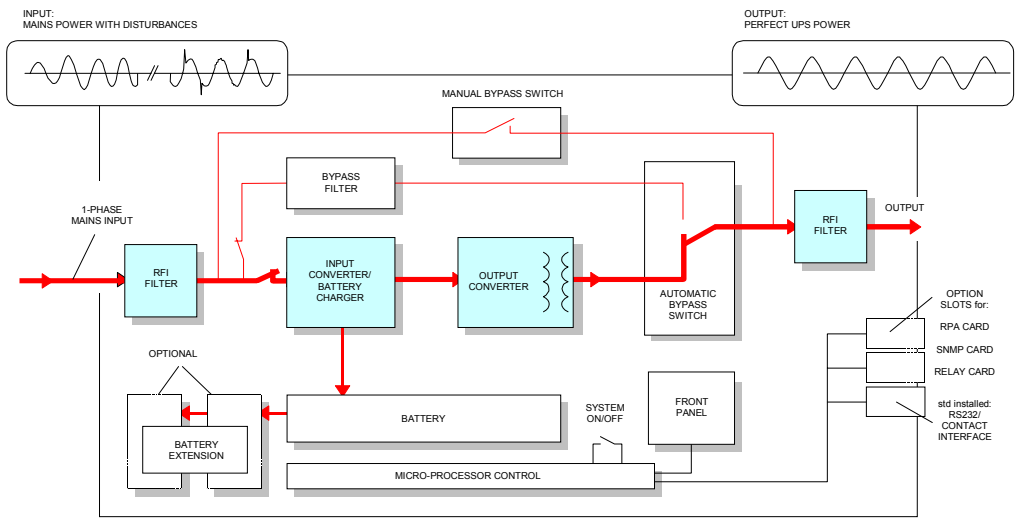

Figure 2. Block diagram of the LanPro-11 UPS, mains present
The **LanPro** UPS stores electric energy in batteries. This allows the UPS to supply output power even when the incoming utility power is cut off completely. Energy is stored as Direct Current (DC), while input and output energy must be Alternating Current (AC). Therefore the UPS contains an input converter (AC to DC) and an output converter (DC to AC). (fig.2)